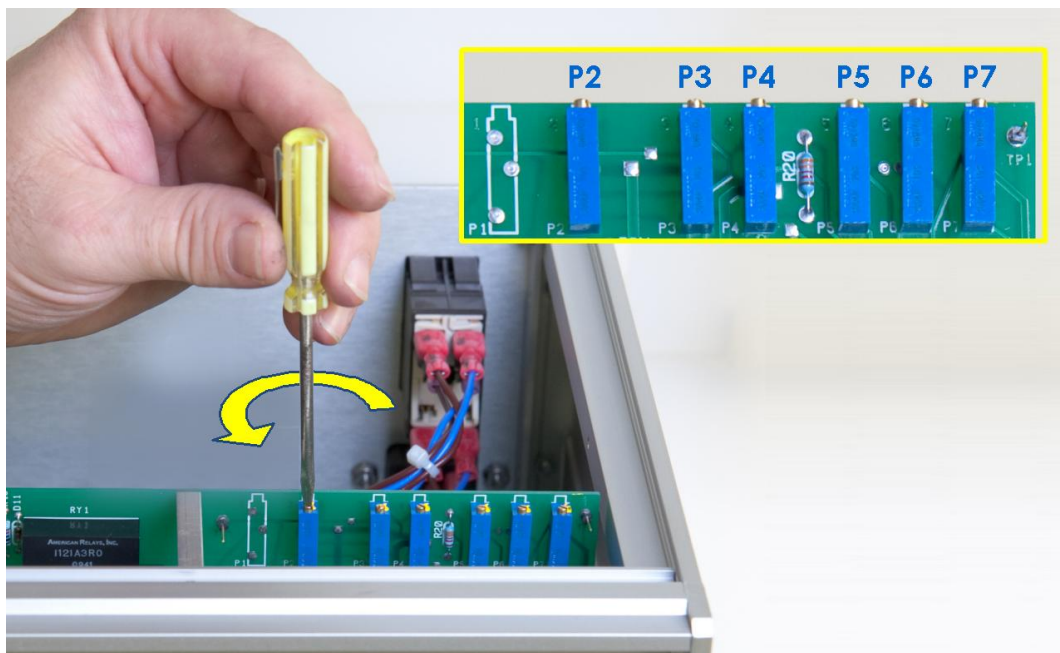

Figure 2-2. Location of Trimmer Potentiometers on the AFMSRCE Control Unit Circuit Board
3. While the power is switched off, note the positions of the various trimmers located along the top of the main circuit board (see Figure 2-2). A trimmer adjustment tool (or a flathead screwdriver) is required to adjust these trimmers.